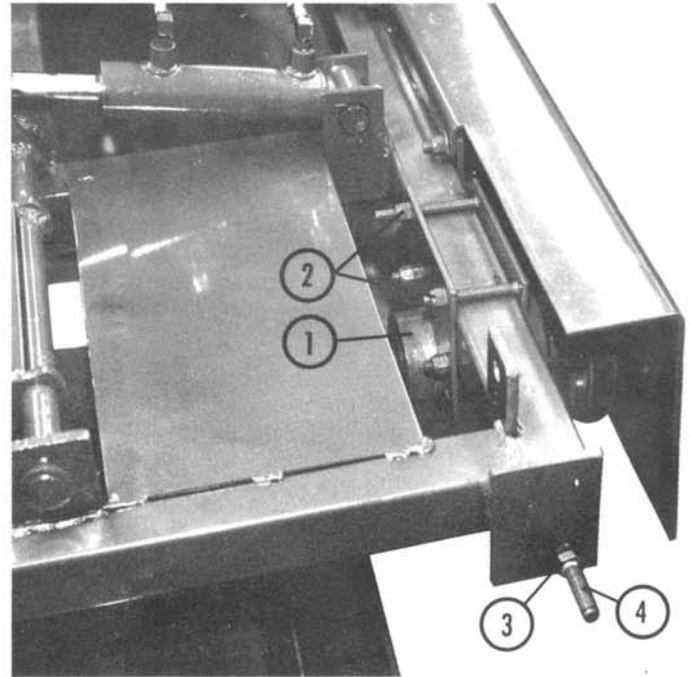

Fig. 10
- B. Loosen the four (4) nuts on the bolts securing the pulley drive to the frame. See fig. 10.
- C. Loosen the nuts on the adjusting rod. See fig. 10.